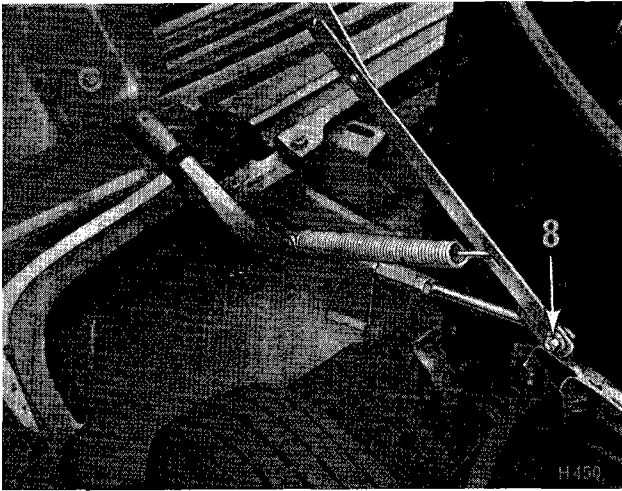

Fig. 11. Bonnet stay attachment
Remove the overrides by unscrewing items (3), (4) and (7). Note distance piece fitted to 1200 models only. Take out bolt (8) (Fig. 11) and support the bonnet as the hinge bolts (5) and (6) are being withdrawn.
Remove both overrides by unscrewing items (4) and (7), take out bolt (8) (Fig. 11) and support the bonnet as the hinge bolts (5) and (6) are being withdrawn.